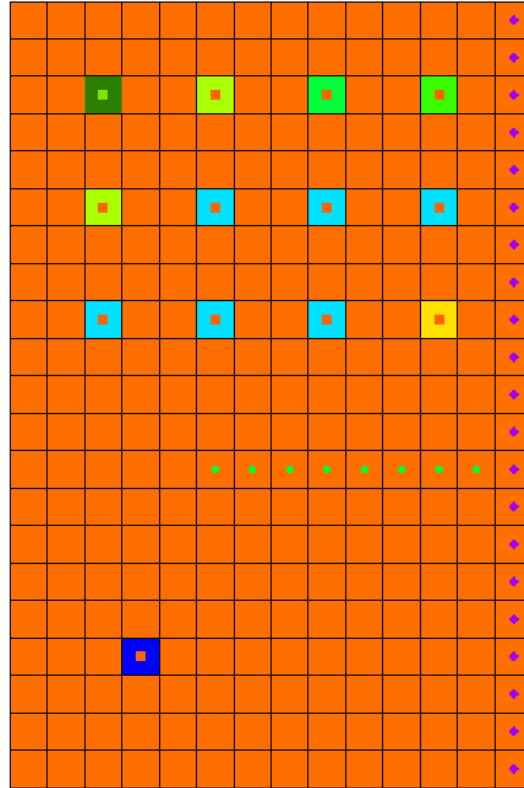

Figure 8 Selected MNW well cell
7. Using the **Select Cells**  tool, select the top-left well cell (Well-A, Cell ID: 31, see Figure 8).